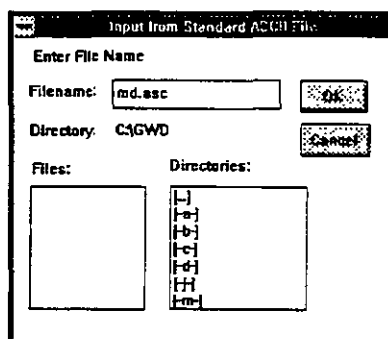

Figure 5-24
4. Master data for all wells that make working set. When you select to read the data from a standard ASCII input file the dialogue box as shown in Figure 5-24 will open prompting you for the name of the file. The